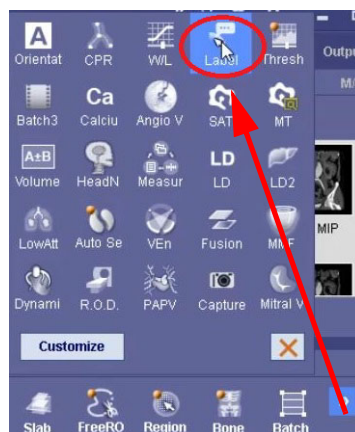

Figure 3-48 Label from the Tool Panel
2. Click the **Label** tool icon in the Tool Panel. (Figure 3-48)